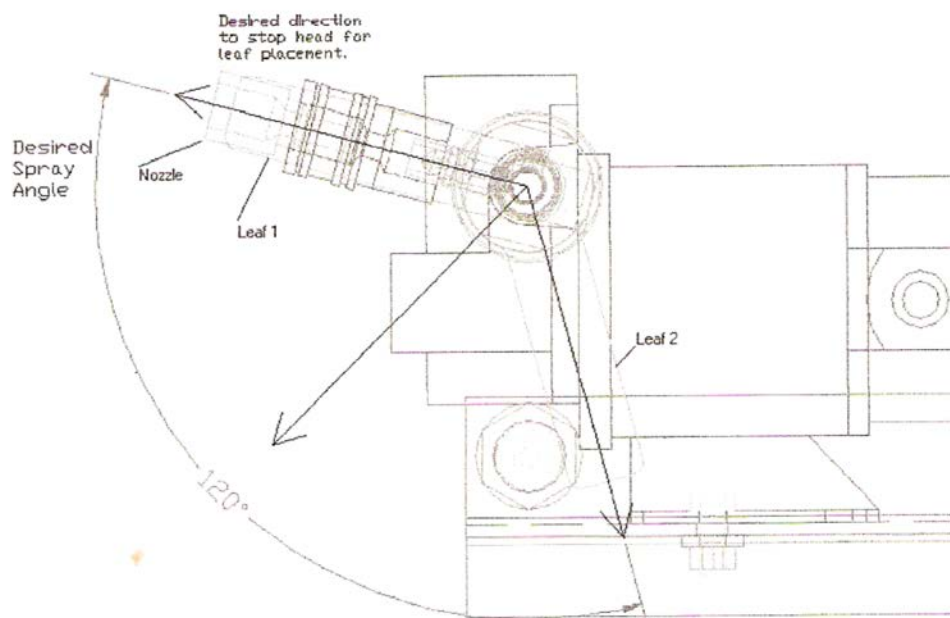

Figure 2.4
2.1.8.2 Set the second leaf to the desired spray angle. See Figure 2.4